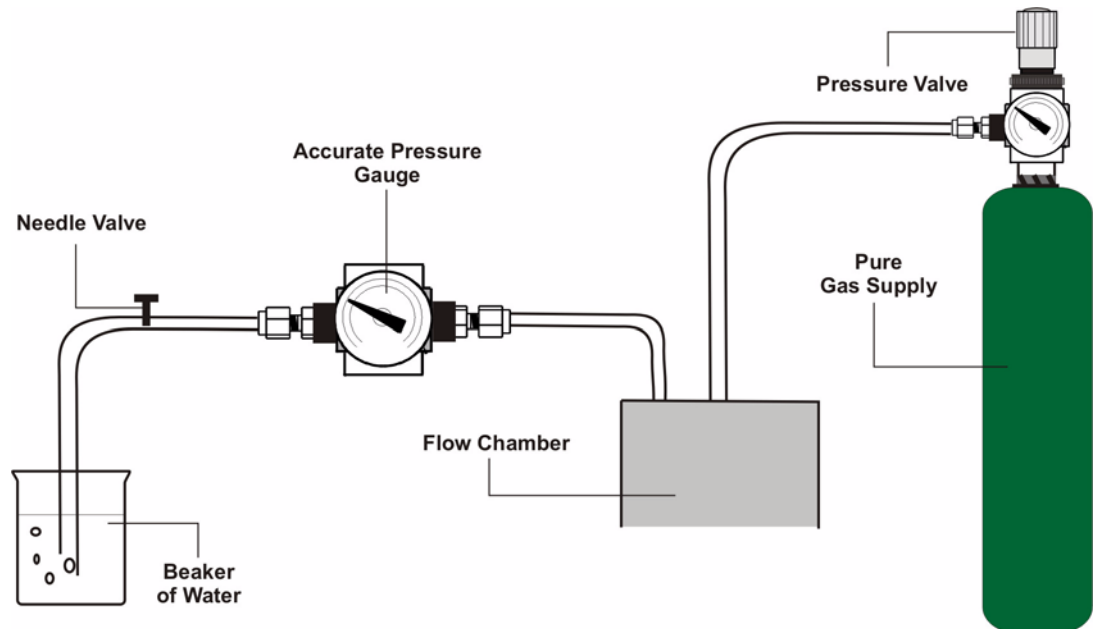

Fig 4-2: Calibration Setup Diagram
The calibration procedure requires a source of pure gas (regulated by a pressure valve) connected to the central entry port of the flow chamber, an accurate pressure gauge (better than  $\pm 2\%$ ) at the exit of the flow chamber, a needle valve to control the flow on exit, and a beaker of water to monitor the gas flow. Fig 4-2 above illustrates the calibration setup.
- 2) Connect a source of pure H2 or N2 gas to the inlet of the flow chamber, as illustrated in Fig 4-2 on page 37, and adjust the gas flow to one bubble per second when the exit tube is immersed in water.
- 2) Connect a source of pure H2 or N2 gas to the inlet of the flow chamber, as illustrated in Fig 4-2 on page 37, and adjust the gas flow exiting from the flow chamber to be in the range of 1 to 5 bar (it is best to use a pressure close to the application conditions).